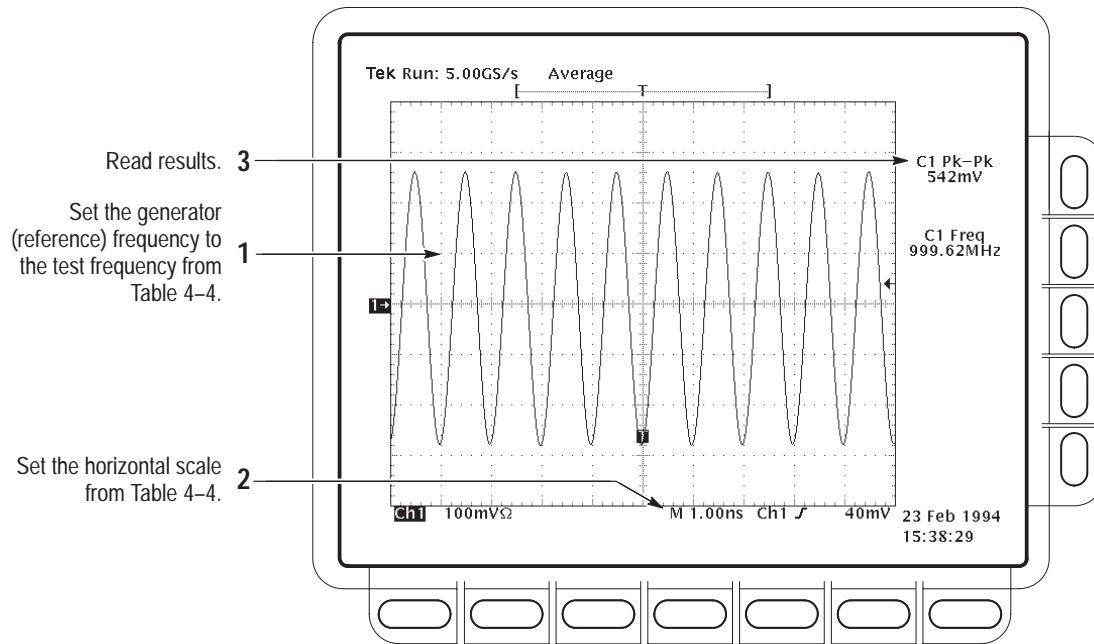

Figure 4–9: Measurement of analog bandwidth
- Set the frequency of the generator, as shown on screen, to the test frequency in Table 4–4 that corresponds to the vertical scale set in substep **d**. See Figure 4–9.
- Read the results at the CHx Pk-Pk readout, which will automatically measure the amplitude of the test signal. See Figure 4–9.